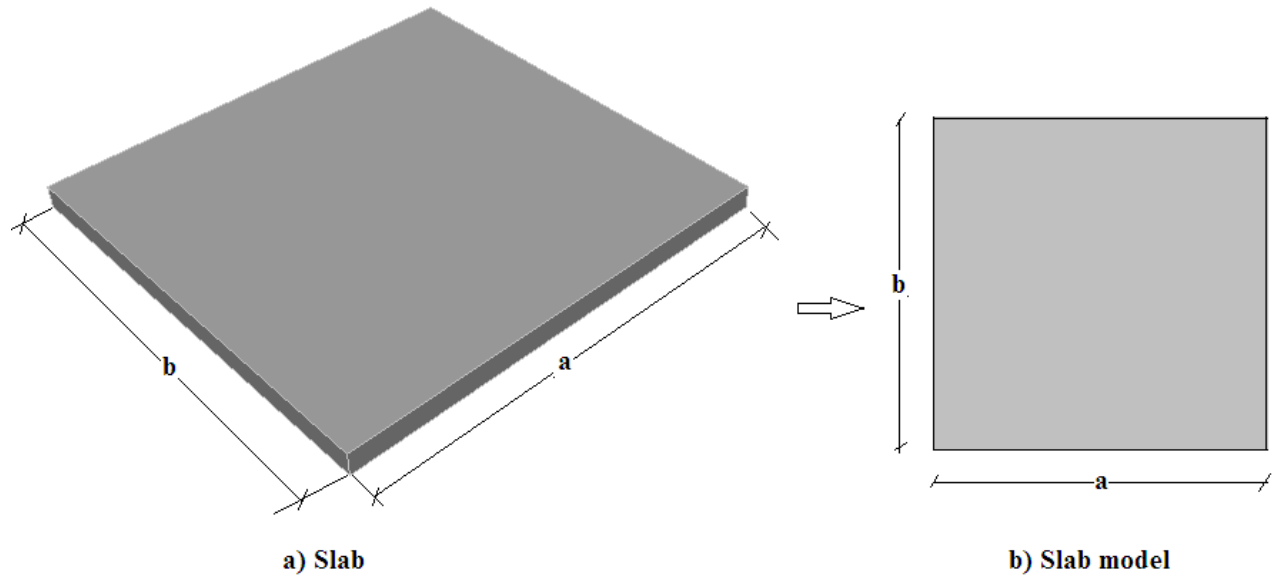

Fig. 1.6: Structural model of beam and slab
1. **Slab:** the first component is the slab. The slab subjected to its own weight, the floor covering and the live load and it supports on the beam. It was modeled by area as shown in Fig. 1.6.
2. **Beam:** The beams subject to their own weight and the load from slab. The beam supports on columns and it was modeled by line. This line has start and end points. These points were called nodes or joints as presented in Fig. 1.6.